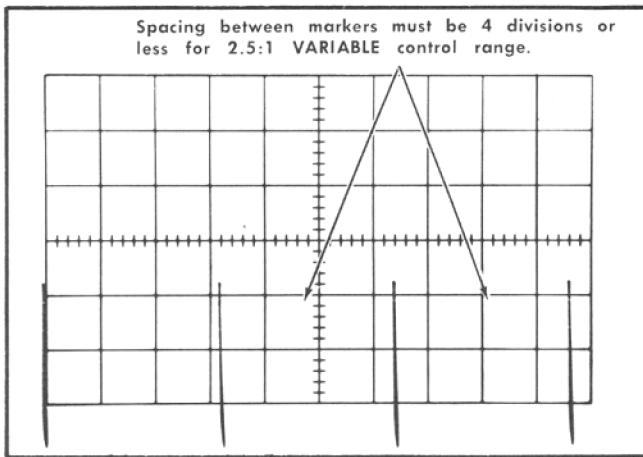

Fig. 6-50. Typical crt display when checking VARIABLE control range.
- Check—Crt display for 4-division maximum spacing between markers (see Fig. 6-50). UNCAL A OR B light must be on when A VARIABLE control is not in CAL position.
- Check—Crt display for 4-division maximum spacing between markers (see Fig. 6-50). UNCAL A OR B light must be on when B VARIABLE control is not in CAL position.